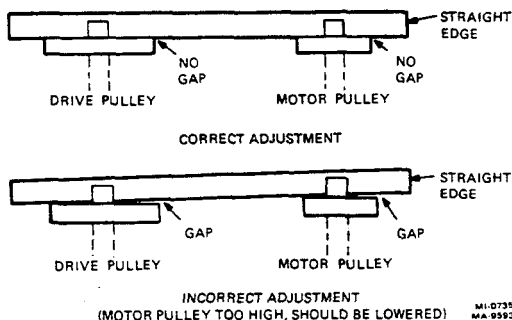

Figure 3-1 Motor Pulley Alignment
2. Using a straight edge, make sure the motor pulley aligns with the spindle pulley (Figure 3-1).